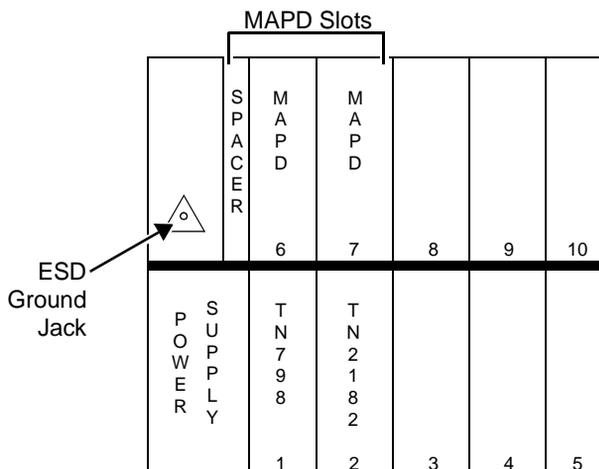

Figure 2-2. MAPD System in a DEFINITY ProLogix Carrier
- For a MAPD system being installed in an existing switch, three contiguous slots in a switch carrier are required to house the MAPD system (slots 16 to 18 as shown in Figure 2-1, "MAPD System in a DEFINITY ECS System Carrier," and slots 6, 7, and the spacer as shown in Figure 2-2, "MAPD System in a DEFINITY ProLogix Carrier"). See Appendix A "PBX Carrier Configuration Worksheets," for carrier worksheets.
Study Figure 2-2 “MAPD External Connections” to gain a general understanding of how the system assembly is to be connected. Some customer-furnished LAN equipment is included within the dotted lines in this figure. Helpful definitions for this equipment are as follows.